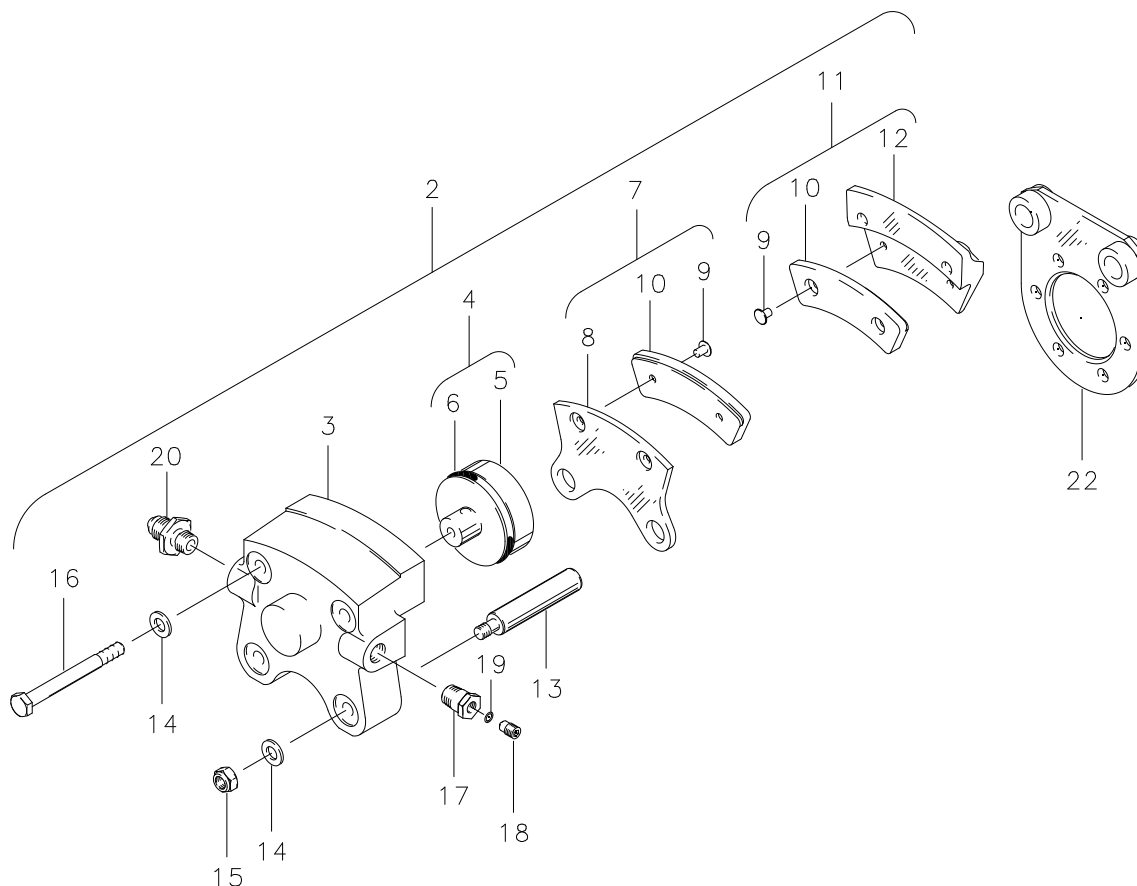

Figure 6, 30-79B Brake Assembly
- (2) For Subassembly and Parts identification: See Figure 6; 30-79B IPL.